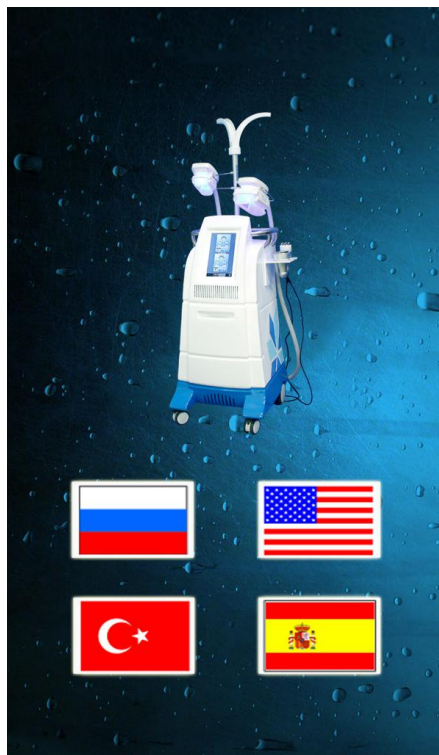

Fig.1 Home interface with four Languages
2. Turn on the back power switch button, interface will appear automatically with four flags to choose language (English, Russian, Spanish, Turkish) as shown in picture (Fig.1).
return to home page (Fig.1)